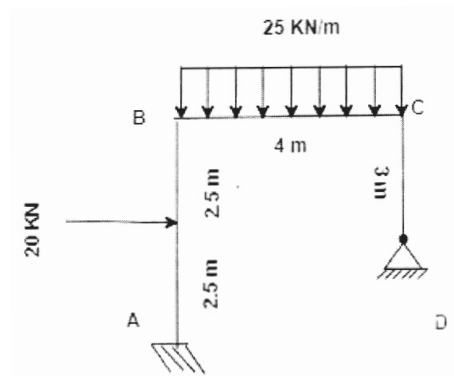

Figure 6
- Q4)** Analyze the frame shown in figure 6 by Moment Distribution Method. Draw BMD. [18]